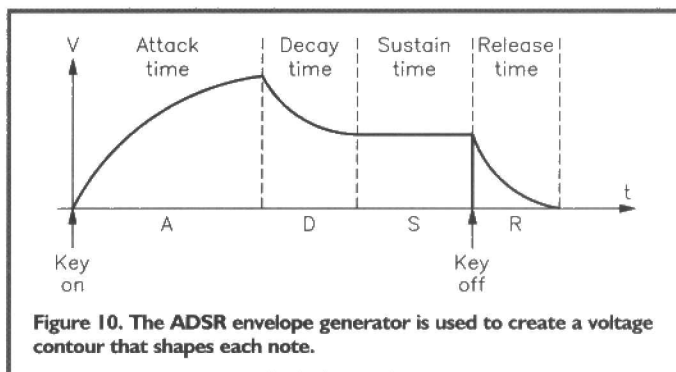

Figure 10. The ADSR envelope generator is used to create a voltage contour that shapes each note.
To simulate the volume curve itself, a modulator circuit called an Envelope Generator (EG) is used. This creates a voltage curve that varies predictably throughout the course of a note. Most EGs are of the four stage Attack, Decay, Sustain and Release (ADSR) variety, as Figure 10 highlights, which splits the sound into an initial attack transient, a static level which is held while a note is held down, and a release phase which starts when the note is released. By